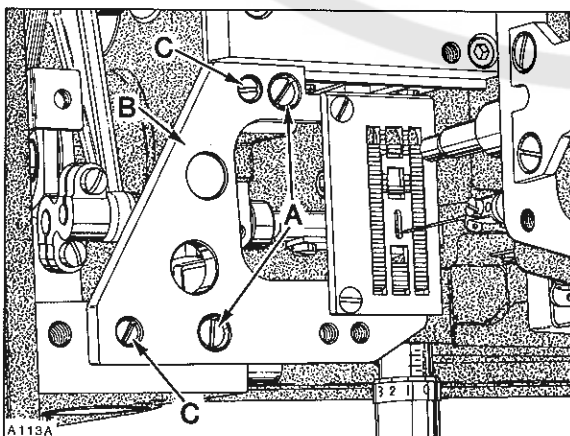

Fig. 12
Feed dog should be centered in throat plate with equal clearance on both sides and ends. At highest point of travel, feed dog teeth should extend the depth of a full tooth, or approximately $\frac{3}{64}$ inch (1.2mm) above throat plate. MINOR (right to left) adjustments can be made by loosening two screws (A, Fig. 12) in throat plate support (B). Loosen two screws (C) securing two locating ferrules which allow movement to align throat plate support. Reposition slightly as required, considering both needle hole slot and feed dog slots. Tighten screws (C) first, then screws (A).